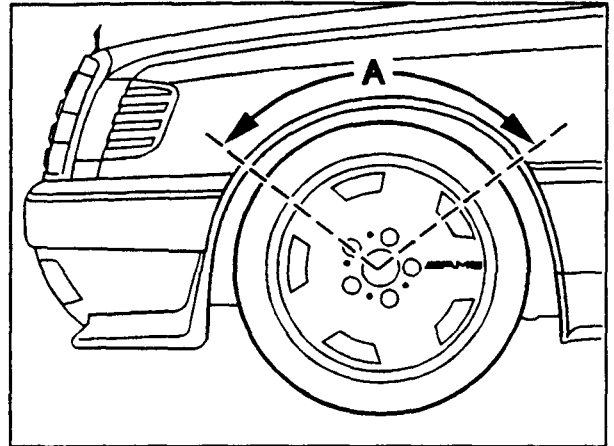

Figure 2
2. The inside edge of the front fenders must be rebent to an angle of 100° over the complete wheel cutout (A, Figure 2) to accommodate the wider wheels and tires (bend lip so that rolled lip measures 5 mm).
5. The fender lip is reworked over the entire area (A, Figure 2) in several stages. A plastic hammer must be used to avoid damaging the paint.